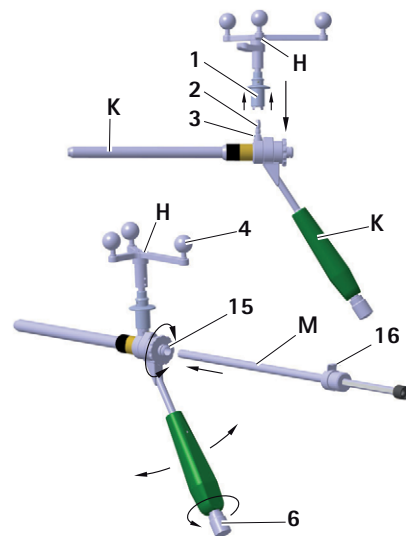

Fig. 13 Mounting the Aesculap star unit onto the S4C guide sleeve; Inserting the S4C drill guide
- ▶ To ensure that the camera has an unrestricted view of the reflective marker spheres, loosen knob **6** on the S4C handle of the S4C guide sleeve **K** and rotate Aesculap star unit **H** to the desired position, see Fig. 13.
- ▶ Slide the inner drill sleeve **M** onto the inner sleeve **15**. The inner guide sleeve engages on the inner sleeve and can still be rotated, see Fig. 13.